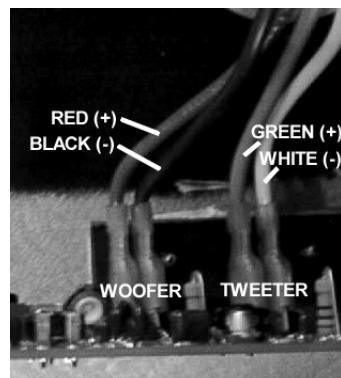

FIG. 7
3. Disconnect PCB mounted tweeter speaker wires (**FIG. 7**)
4. Disconnect PCB mounted woofer speaker wires (**FIG. 7**)